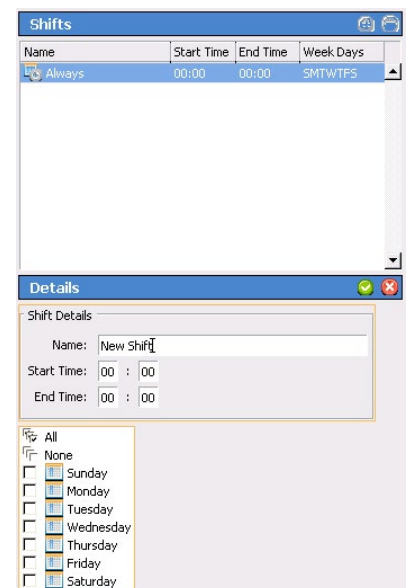

Figure 29: Add Shifts
2. Click on the **Add** button in the **Shifts** area, shown in Figure 29.